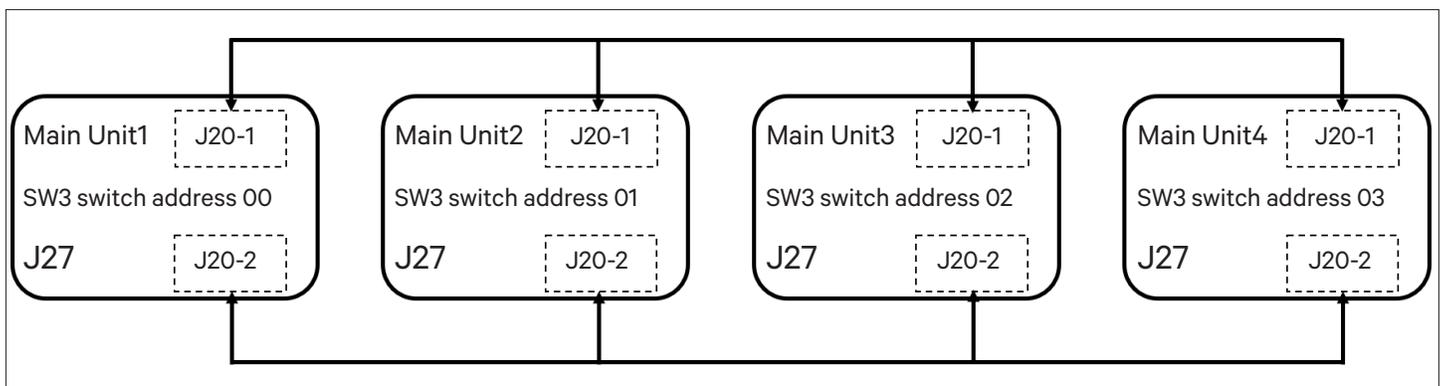
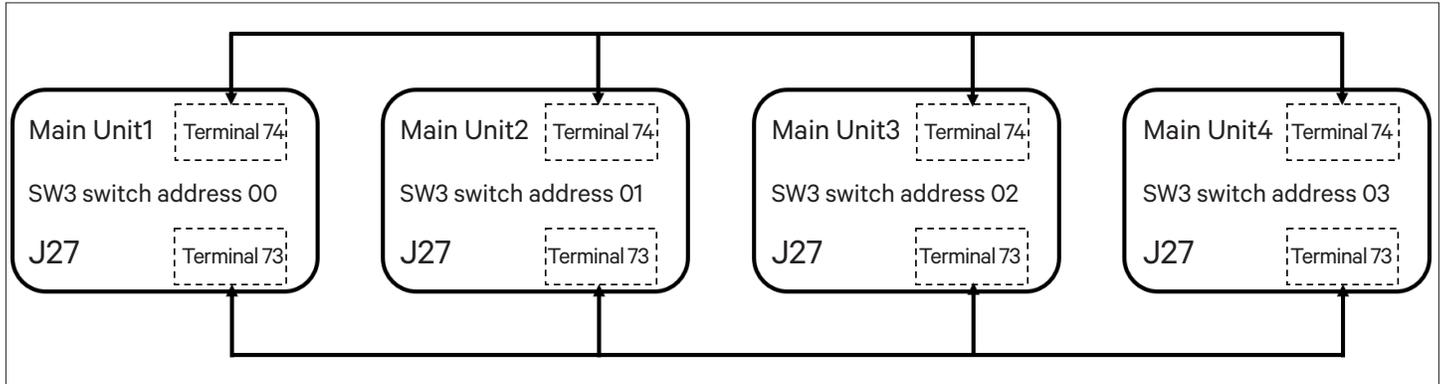

Figure 3-12 Connection Diagram of Teamwork Control Terminal (07/12 kW)
Figure 3-13 Connection Diagram of Teamwork Control Terminal (17/22/27 kW)
The Liebert® DM air conditioners support the teamwork control function of up to 4 units. If user needs to use the teamwork control function, then connect the main control boards J20-1 and J20-2 between the units in series for 07/12kW shown in Figure 3-12 and connect the teamwork control terminals 73 and 74 between the units in series for 17/22/27kW shown in Figure 3-13. After the teamwork control unit is cabled, as given in Table 3-2, set the teamwork control unit DIP switch on the printed circuit board (see Figure 3-10) to complete the address setting.
1. The first and last teamwork control units need to keep the J27 group control jumper cap on the printed board (the main unit 1 and the main unit 4 as shown in Figure 3-12). The middle teamwork control unit needs to remove the J27 teamwork control jumper cap (as shown in the Figure 3-12 that shows main unit 2, main unit 3).